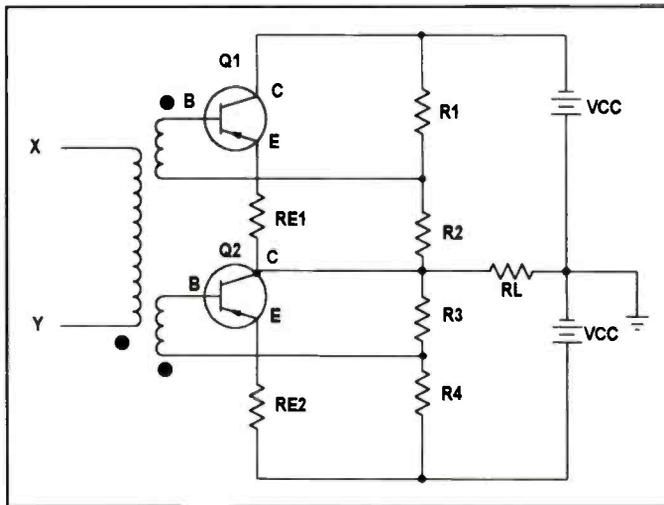

Figure 1. What does the dot notation on the transformer indicate?
1. In the circuit of Figure 1, the dot notation on the transformer indicates